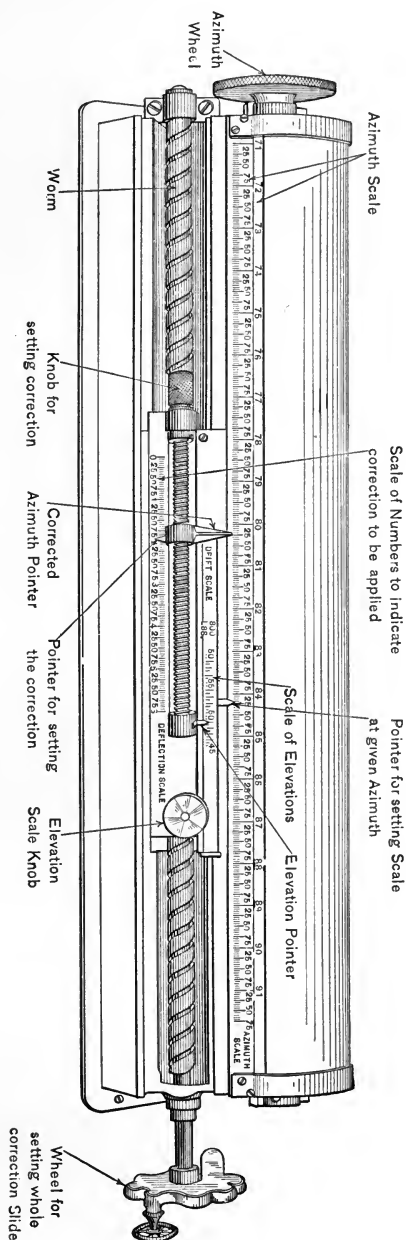

FIG. 83.
A. The deflection scale is used to determine azimuth corrections for mortars. After the "set-forward point" has been obtained, the plotter sets the gun-arm on it and by means of the *indicator* determines the zone, range, and elevation of the target. The operator reads the straight azimuth from the gun-azimuth scale and gets the zone and elevation from the plotter. He then sets the elevation scale-pointer at the given elevation, turns crank moving small azimuth pointer to the azimuth he obtained from gun-arm scale; then by referring to the large azimuth scale-pointer he reads the corrected gun-azimuth, which he sends to the pits together with zone and elevation. Should it become necessary to make a correction for drift, turn the deflection-scale knob, either to right or left, as the case may be, as 3 = normal. (See Fig. 83.)